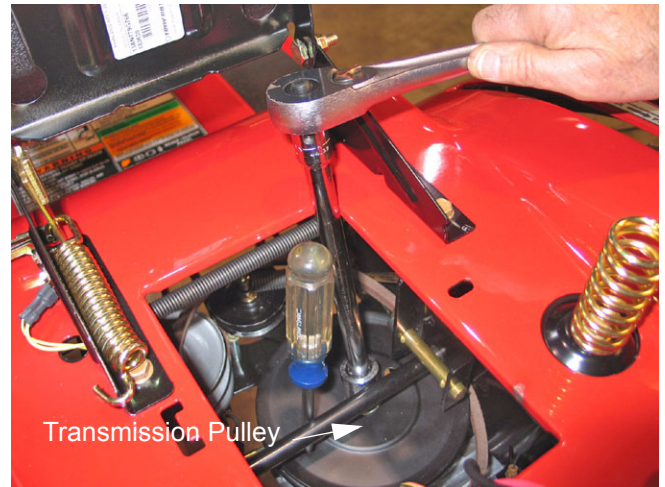

Figure 28
- 7.5. Using a 7/8" socket and extension, remove the nut securing the transmission pulley to the transmission. See Figure 28.